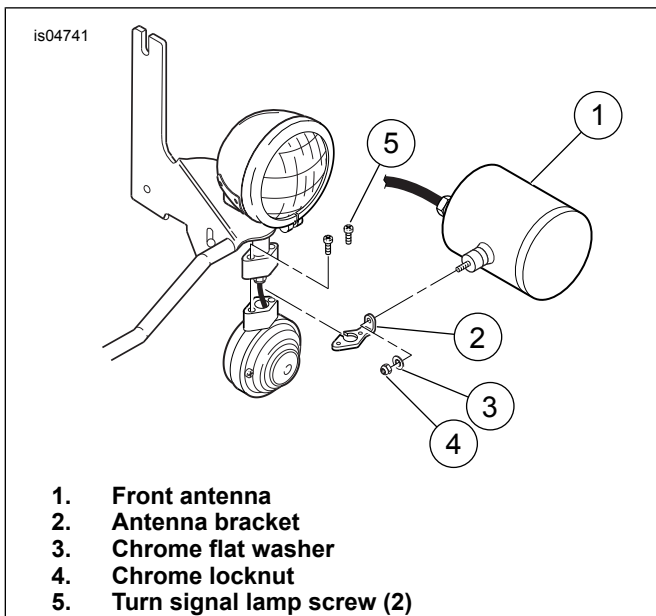

Figure 6. Front Antenna - Turn Signal Mount - FLHP, FLHTP Shown
2. See Figure 6. Using a long shank ball end socket (Snap-on[®] FABL5 or equivalent), remove the two screws (5) fastening the left side turn signal lamp to the mounting bracket. Use the hole in the passing lamp bracket to access the inboard screw.
3. Slide the antenna bracket (2) in between the turn signal lamp and mounting bracket as shown. Start the two screws to secure the turn signal lamp to the mounting bracket. Verify that the conduit fits in the slot at the back of the bracket and is not pinched as the screws are tightened. Tighten the screws securely.
4. Mount the antenna unit to the antenna bracket with the chrome flat washer (3) and locknut (4) and tighten securely.